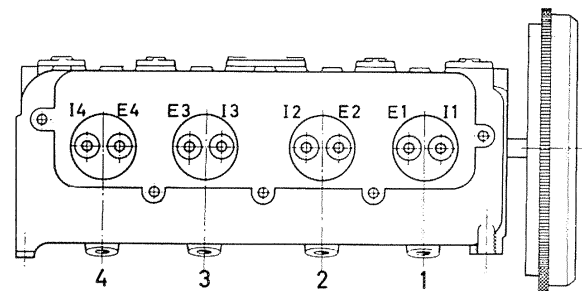

Fig. 24. 4-cyl. engine
0.15 mm (0.006"), designation I according to Figs. 24 and 25.
0.25 mm (0.010"), designation E according to Figs. 24 and 25.